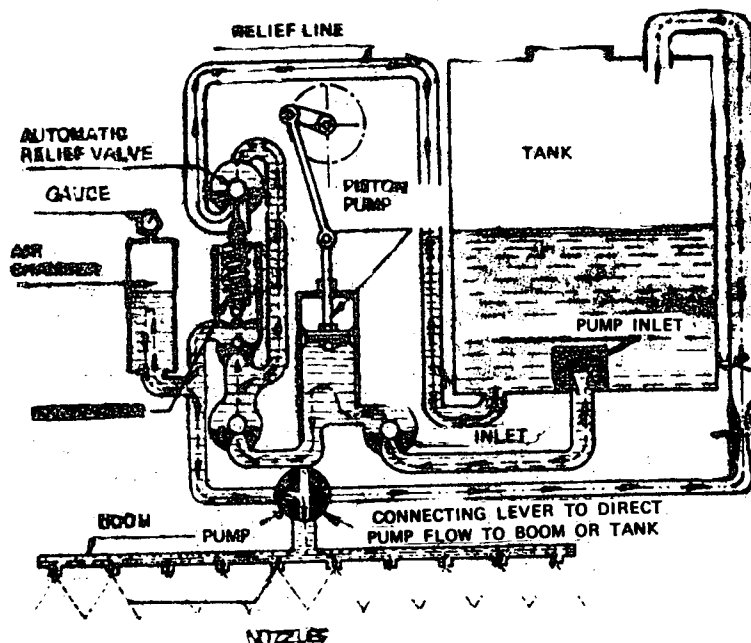

Fig. 12
*HIGH-VOLUME SPRAYING (Fig. 12)*